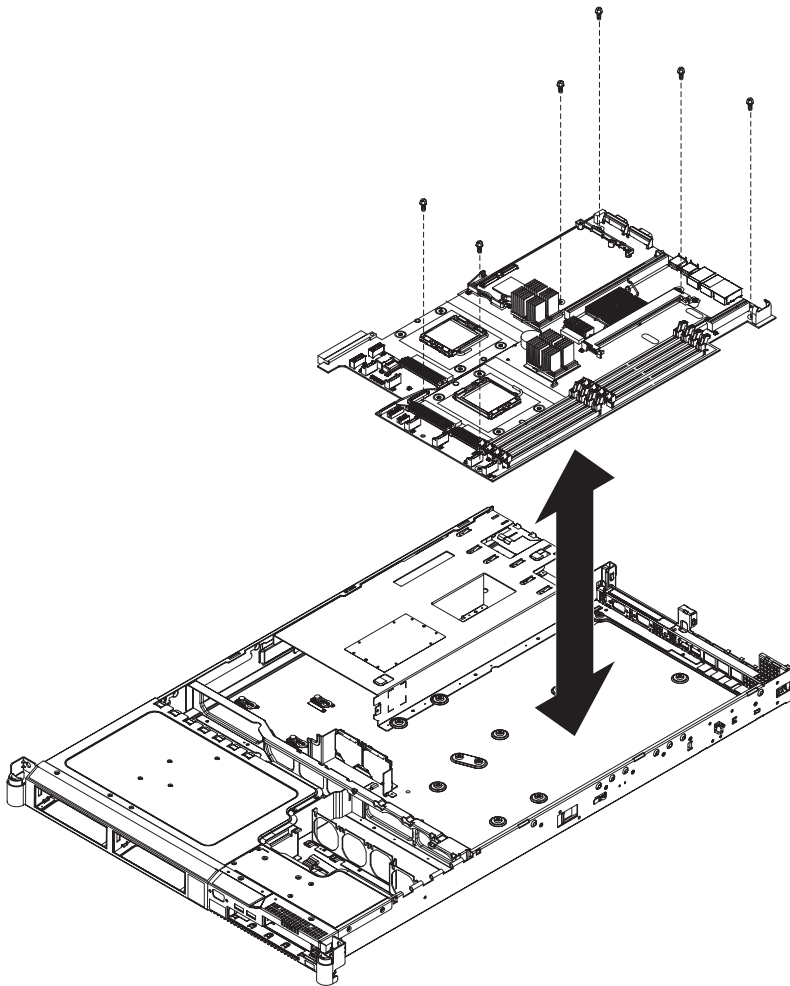

Figure 286. The placement of the screws that secure the SAN Volume Controller 2145-8G4 system board
19. Remove the six screws on the system board, as shown in Figure 286, that secure the system board to the chassis.